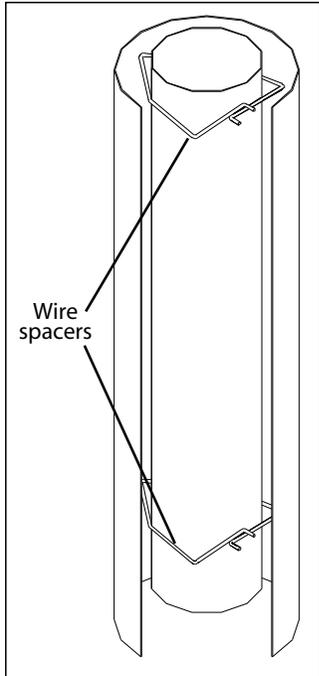

Figure 20: Wire Spacers.
8. Slide the Ø6⅝" (16.25 cm) flex intake liner over the flex vent. Install four (4) wire spacers around the flex pipe. Ensure the wire spacers are positioned at either end of the pipes, and at each end of any elbows in the liners (refer to Figure 20 and 21).
A 1" (25 mm) clearance to combustibles must be maintained around any vertical vent pipe. Around a horizontal vent pipe, the clearance to combustibles should be 2" (51 mm) above and 1½" (38 mm) on the sides and bottom. When combustible materials are directly above a 90° elbow, 5" (127 mm) of clearance are necessary (see Figure 20).